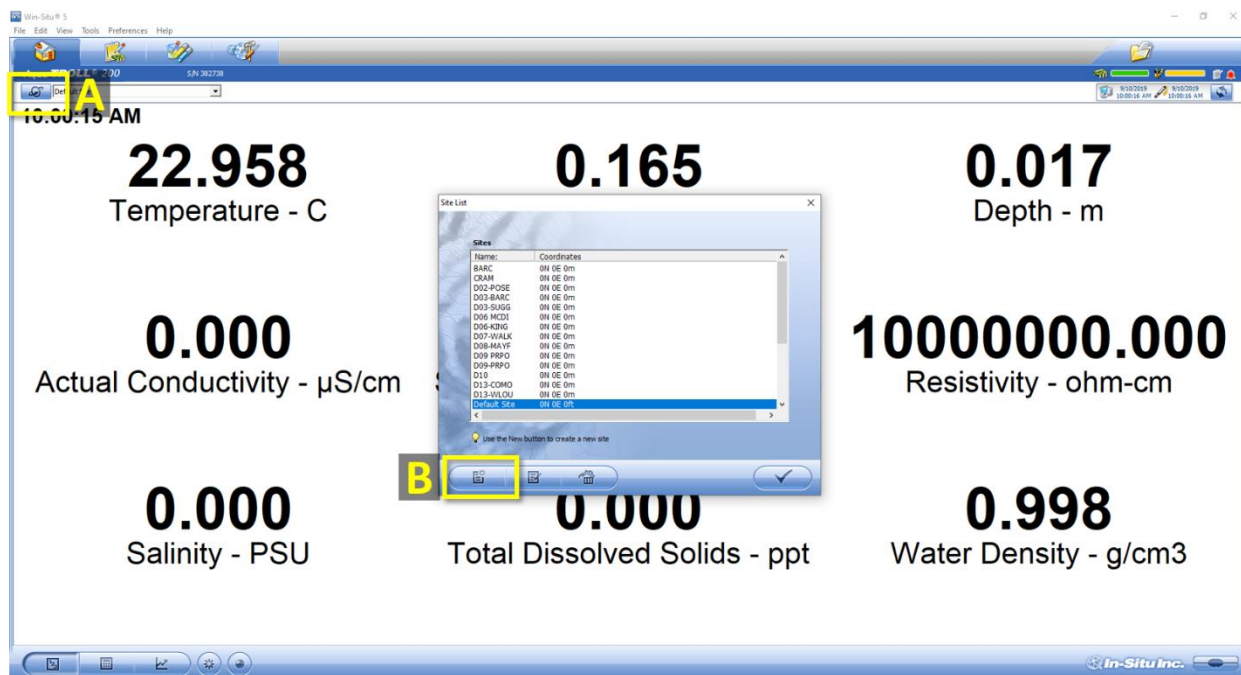

Figure 36. How to Add a New Site Name to the Logging Wizard Site List Dropdown from WinSitu Software Homepage
1. From the WinSitu-5 homepage, select the Planet icon in the upper left hand corner of the screen (A in Figure 36). Then from the **Site List** pop-up window, select the New Document icon (B in Figure 36).